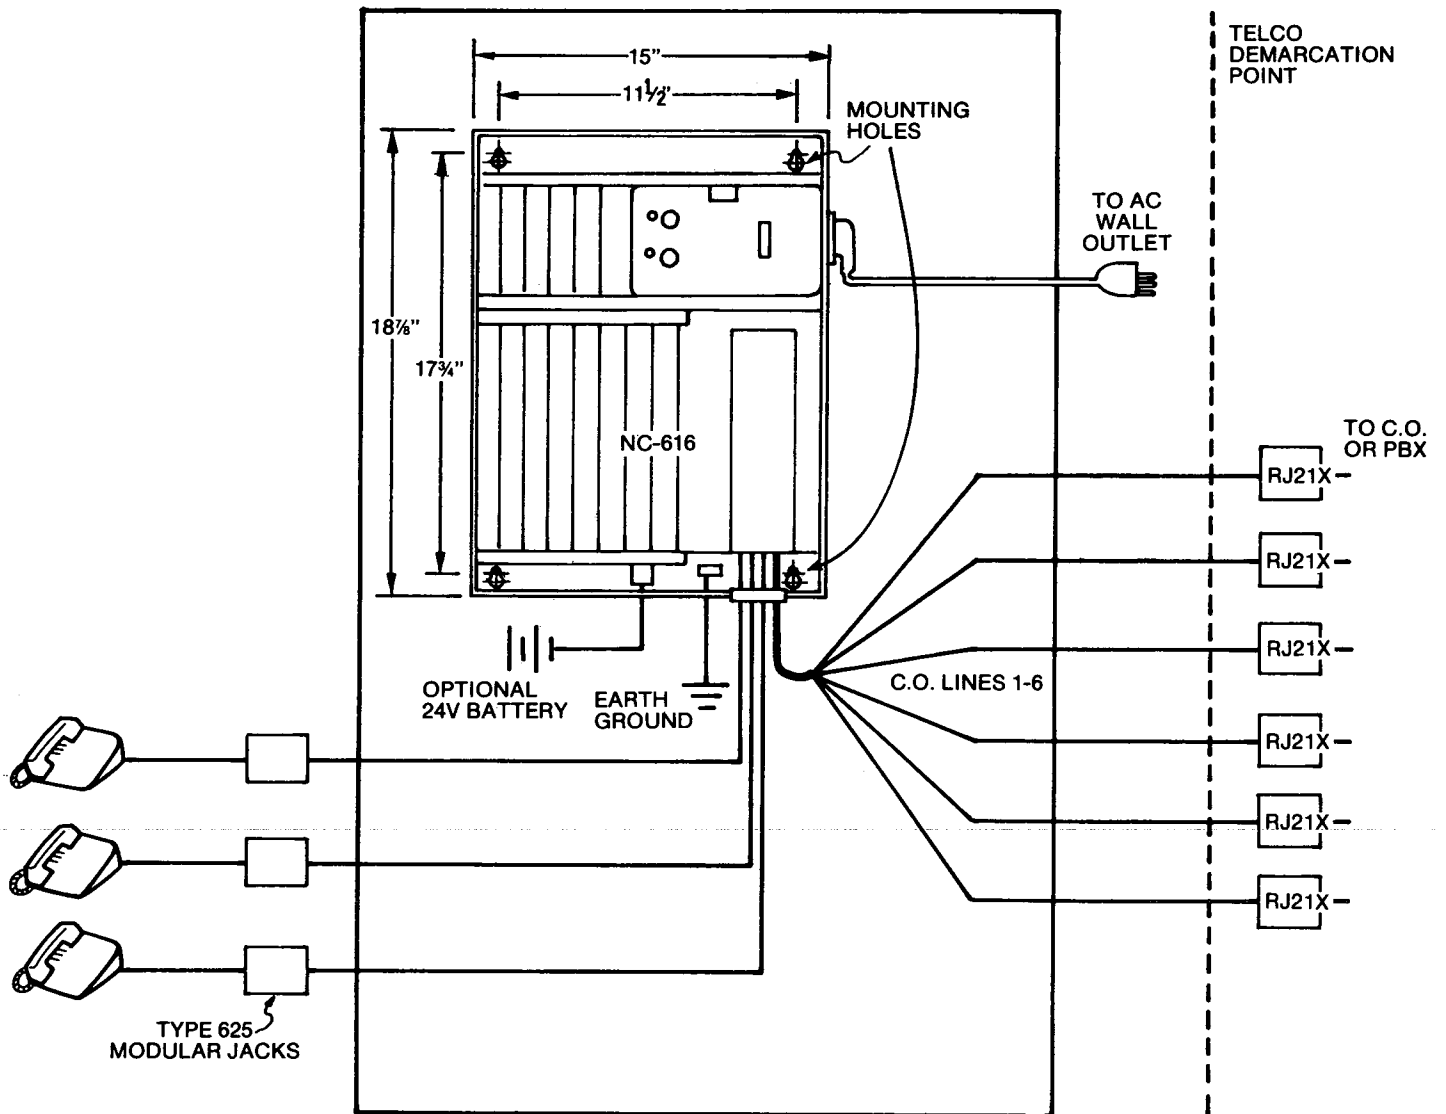

FIGURE 2. TYPICAL INSTALLATION
- B) Mount the KSU on the backboard using four fasteners. (The fasteners should be selected carefully so as to be capable of supporting a fully loaded KSU). (Refer to Figure 2 for mounting hole locations and KSU dimensions).